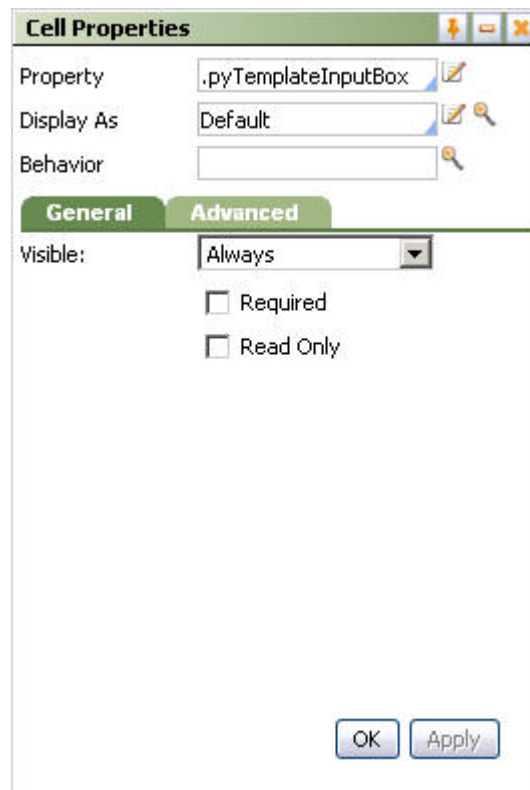

Figure 4-7. Field Cell Properties Panel
- d. Click the magnifying glass icon () next to the cell. This opens a Cell Properties panel as shown in Figure 4-7.